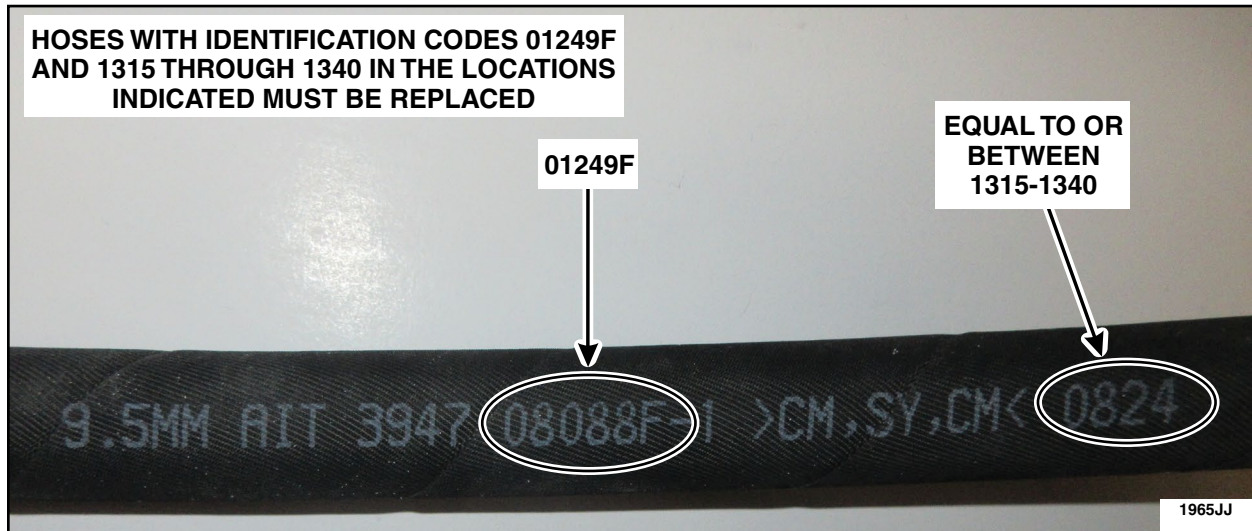

FIGURE 34
3. Compare the identification codes to the list shown below. Is the code with 'F' at the end 01249F and is the second code equal to or between 1315-1340? See Figure 34.